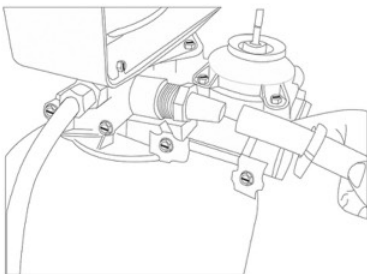

Figure 20
- Locate the included barbed fitting and use Teflon tape to wrap the threading. Install the fitting to the Fleck Meter Valve by screwing the fitting using a wrench snugly into the drain port as shown in Figure 20 on the following page. Please use caution not to over tighten this fitting.